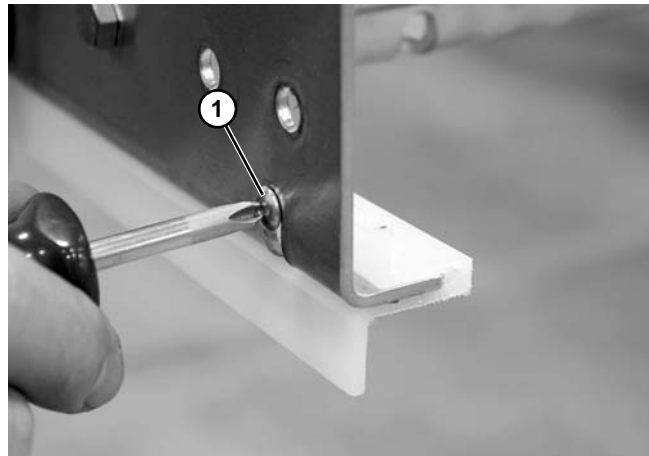

Figure 48
1. Remove the screw (**Figure 48, item 1**) retaining the wear strip to the frame.